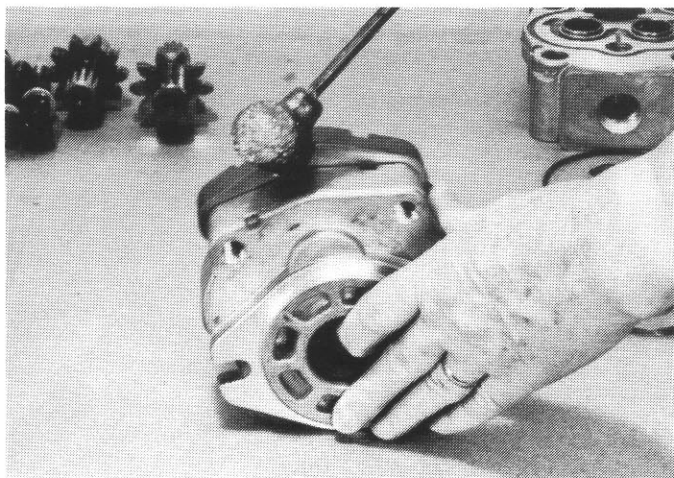

Fig. 10
10. Tap edges of gear plate (2) with wood mallet or plastic hammer to loosen. If gear plate does not move by this method, lift the plates up off work bench slightly and tap the ears of flange plate lightly. (Fig. 10)